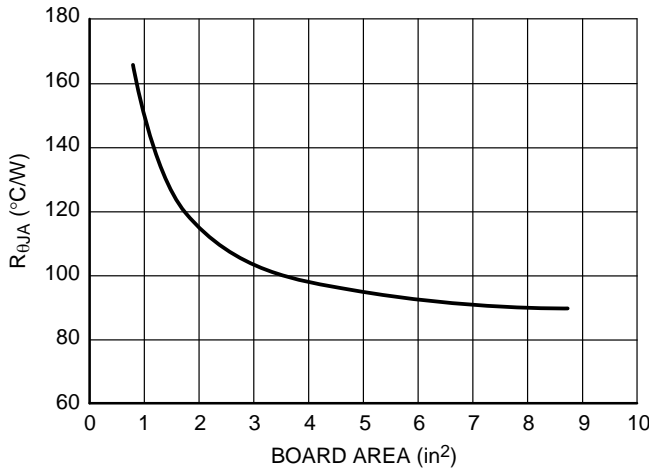
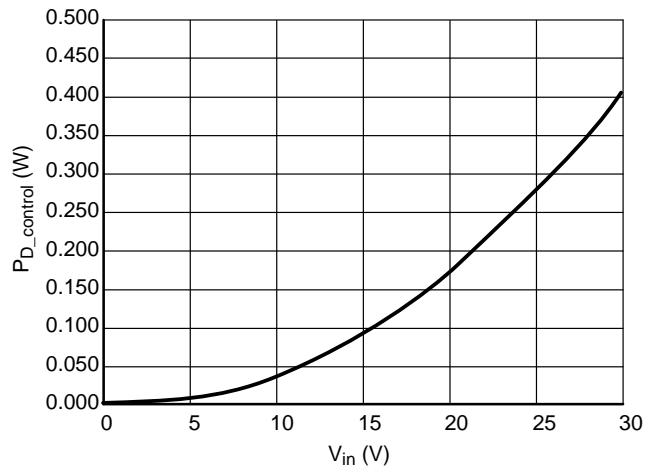

Figure 4. $R_{\theta JA}$ versus Board Area
Figure 5. Power Dissipation vs. V_{in} for the NUD4001
5. Calculate the power dissipation in the NUD4001 control circuitry based on the information in Figure 4 of the data sheet.
There will be some additional current flowing through the NUD4001 due to the external resistor R2 and Schottky diode D1. A good estimate is to take 1.1 times the value shown in Figure 5 as being the new internal power dissipation in the control section of the NUD4001.
- Calculate the heatsink requirements for the NUD4001 based on the information in Figure 11 in the data sheet. This graph is reproduced as Figure 5 in this paper. From Figure 4, the worst case $R_{\theta JA} = 170^\circ\text{C/W}$ with minimum board area.